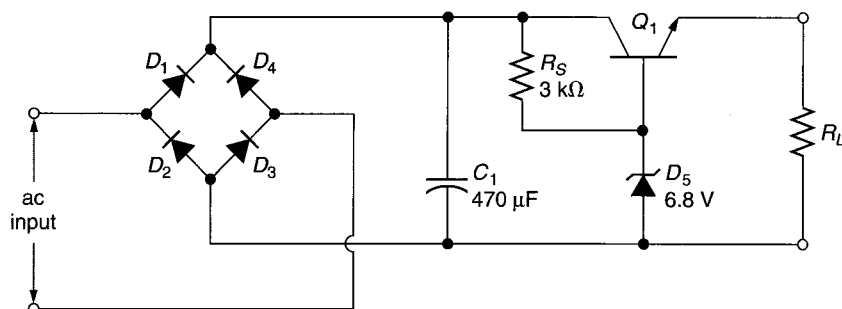

FIGURE 21.25
9. Determine the approximate value of  $V_L$  for the circuit shown in Figure 21.25.